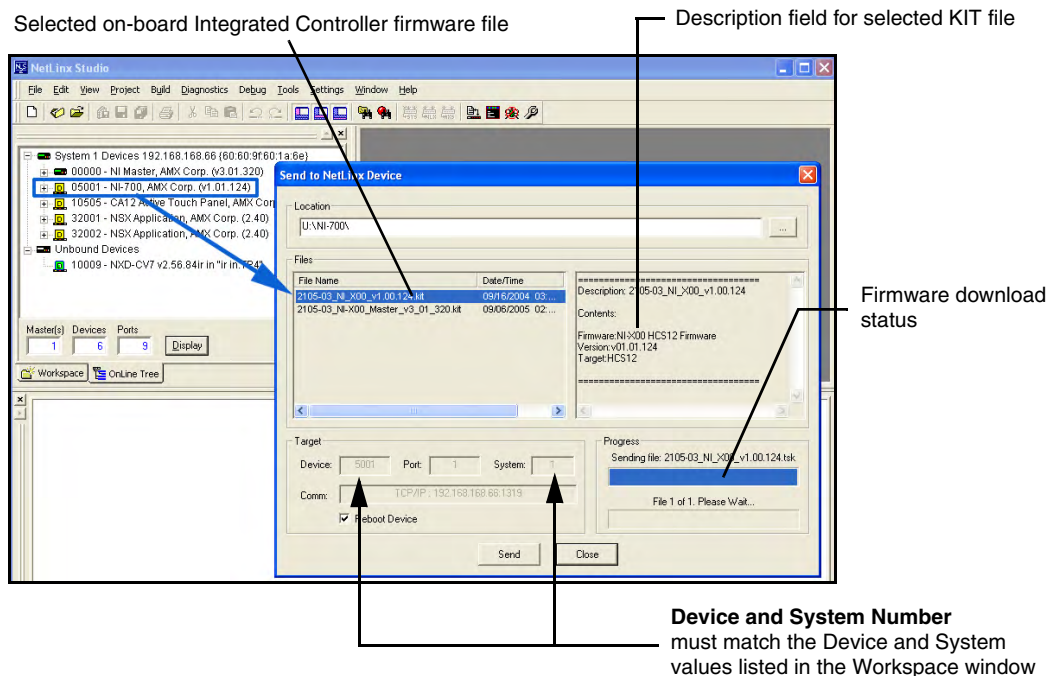

FIG. 34 Send to NetLinx Device dialog (showing on-board Integrated Controller firmware update via IP)
7. From within Studio, select **Tools > Firmware Transfers > Send to NetLinx Device** from the Main menu to open the Send to NetLinx Device dialog (FIG. 34). Verify the target's System number matches the value listed within the active System folder in the **OnLine Tree** tab of the Workspace. **The Device must match the entry for the on-board Integrated Controller (NI-X000/NI-X000) device.**
8. Select the Integrated Controller's (**_X00**) from the **Files** section (FIG. 34).
12. Click **Send** to begin the transfer. The file transfer progress is indicated on the bottom-right of the dialog (FIG. 34).